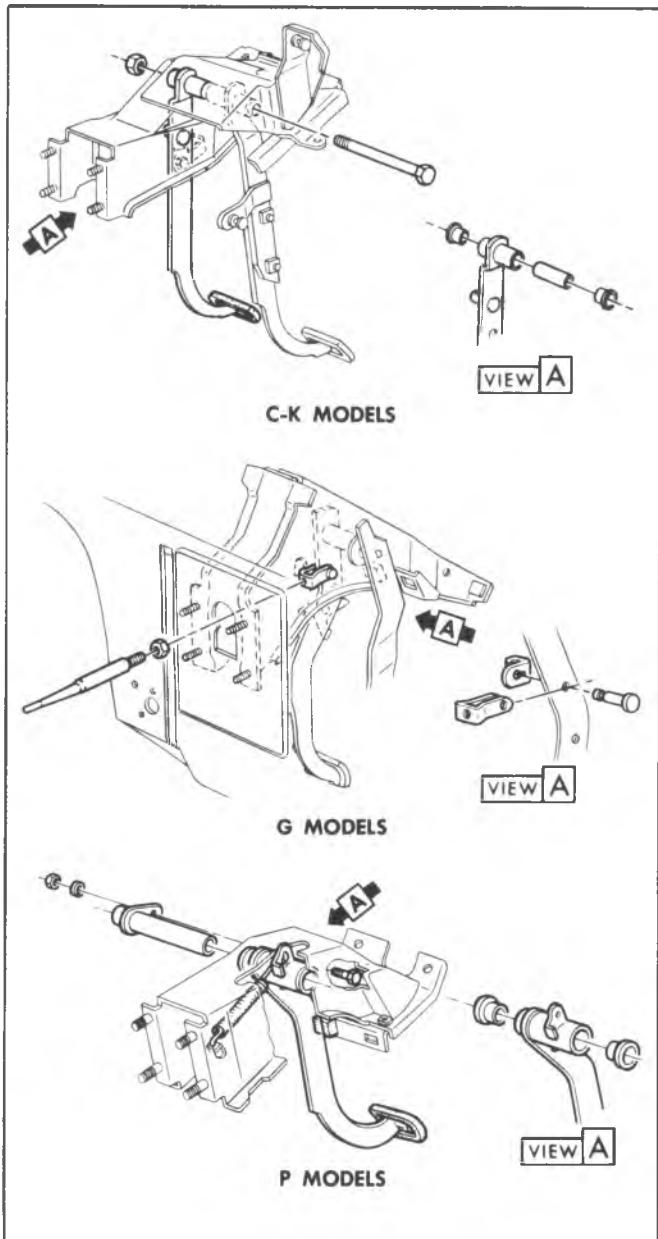

Fig. 75-Brake Pedal Mounting
- b. Hold switch bracket in this position and tighten bolt (D). Switch should close (light on) at 5.10" brake pedal pad movement from full back.
- b. Hold switch bracket in this position and tighten bolt (D).
**BRAKE PEDAL—SERVICE BRAKE (Fig. 75)**